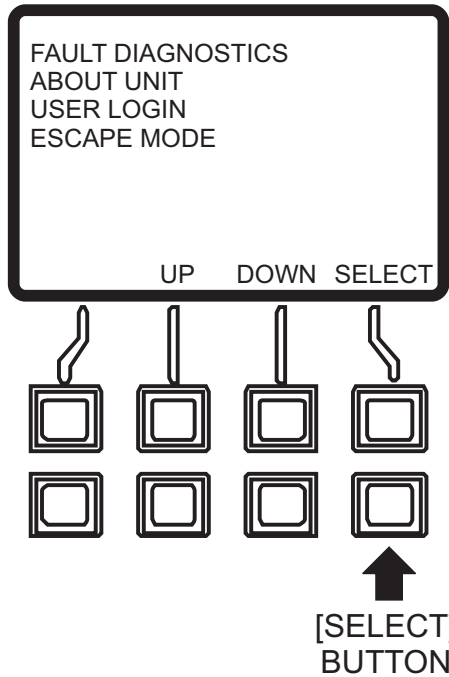

Figure 90. Main Menu (Select Button)
5. Press the **[SELECT]** button (Figure 90) to enter the “Escape Mode” menu.